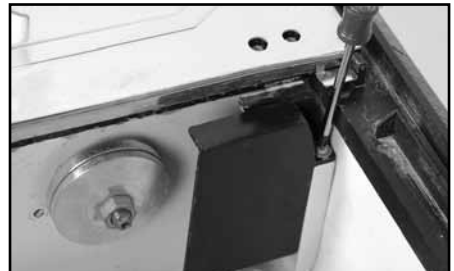

FIGURE 4
2. Remove baffle (see FIGURE 4)